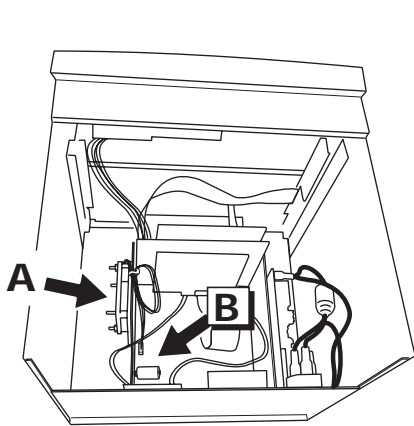

Figure 10.1c Fan and battery locations
1. Once the cover is removed, the exhausted battery (located as shown in figures 10.1c and 10.1e) can be prized out of its holder, and the replacement fitted.